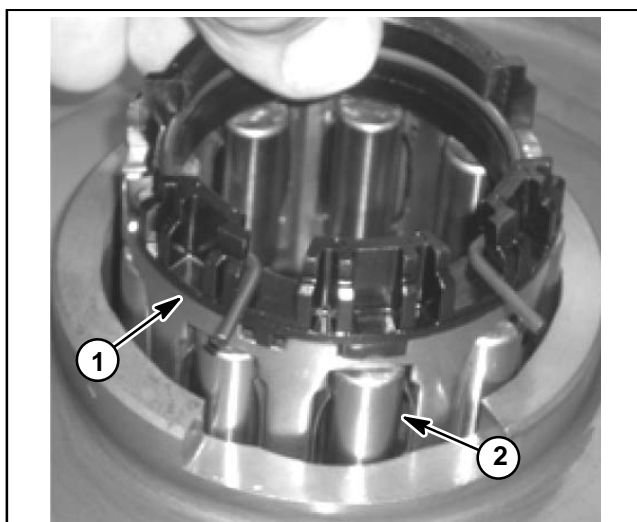

Figure 14
8. Lift the roller cage assembly from the center of the ring gear (Fig. 14). Note: the rollers are loose in the cage and may fall out when removed.